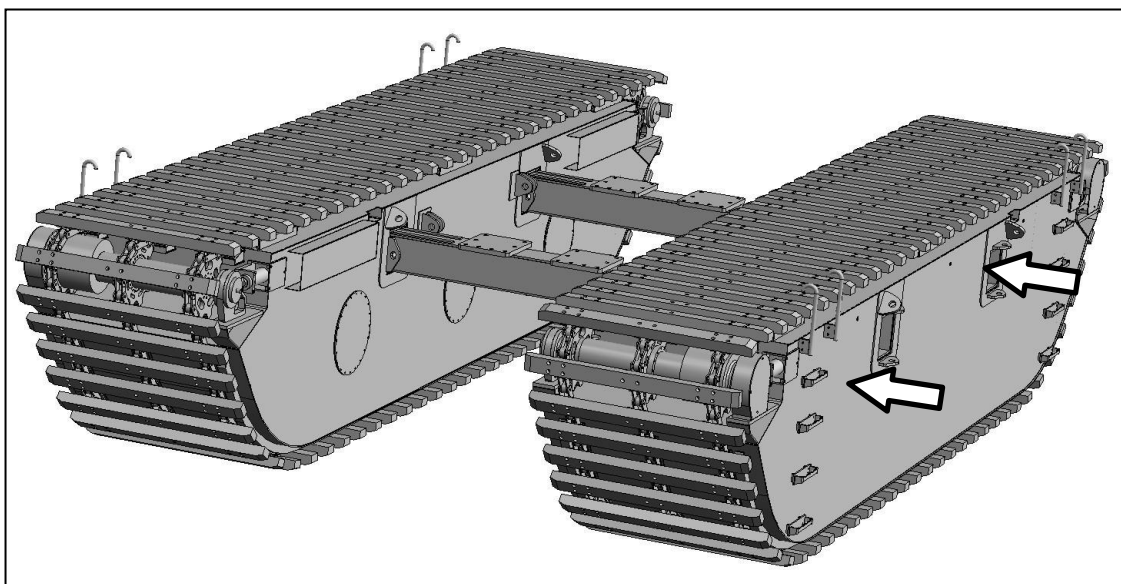

Figure 6.4
3. Move the second undercarriage unit to the preassembled unit. Insert the undercarriage into the crossbeam. Use the locking pin to lock the crossbeams. Refer to Figure 6.4.